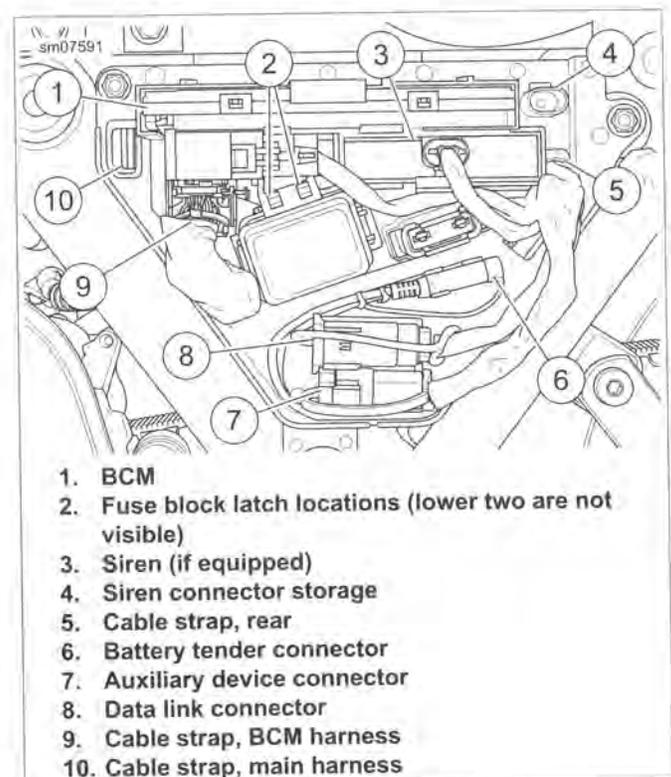

Figure 7-5. Caddy Components
7. See Figure 7-5. Disconnect and remove BCM (1). See 7.5 BODY CONTROL MODULE (BCM).
8. Disconnect and remove siren (3), if equipped. If not equipped, remove connector from storage location (4) on caddy.
9. Release data link connector (8), auxiliary device connector (7) and battery tender connector (6) from caddy.
1. See Figure 7-5. Route harnesses through openings.
3. Loosely secure main harness to anchor on back side of caddy with cable strap (10).
5. Insert fuse block from back side of caddy. Confirm the latches (2) are secured to the fuse block.
6. Loosely secure BCM harness to tab with previously installed cable strap (9).
7. Loosely secure harnesses to tab at rear opening with a cable strap (5).